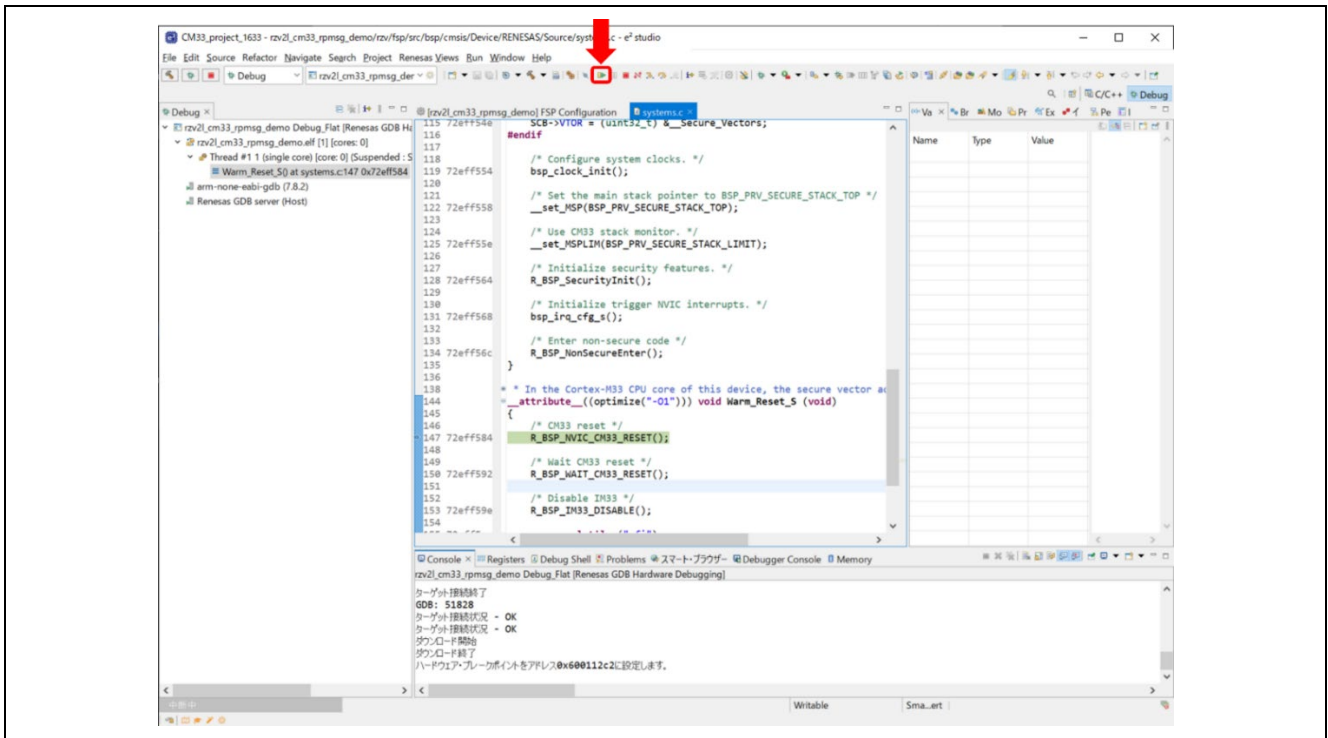

Figure 4-7. How to start to debug sample program (1)
- When the debug perspective is opened, Program Counter (PC) should be located at the top of Warm\_Reset\_S function. Then, you need to press the button indicated by a red arrow in Figure 4-7.